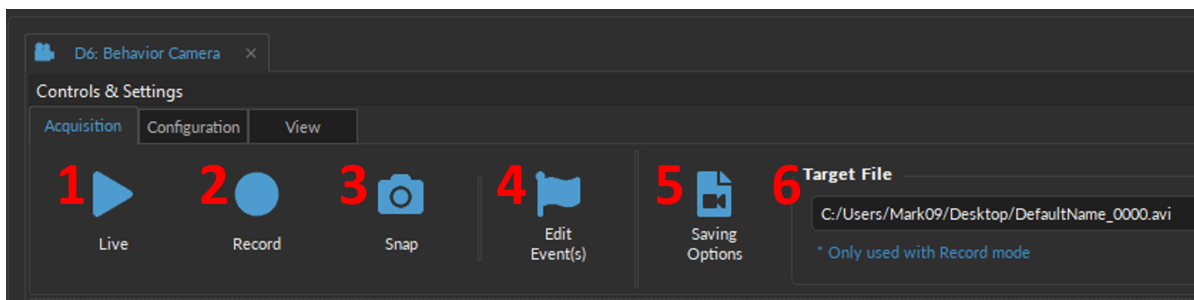
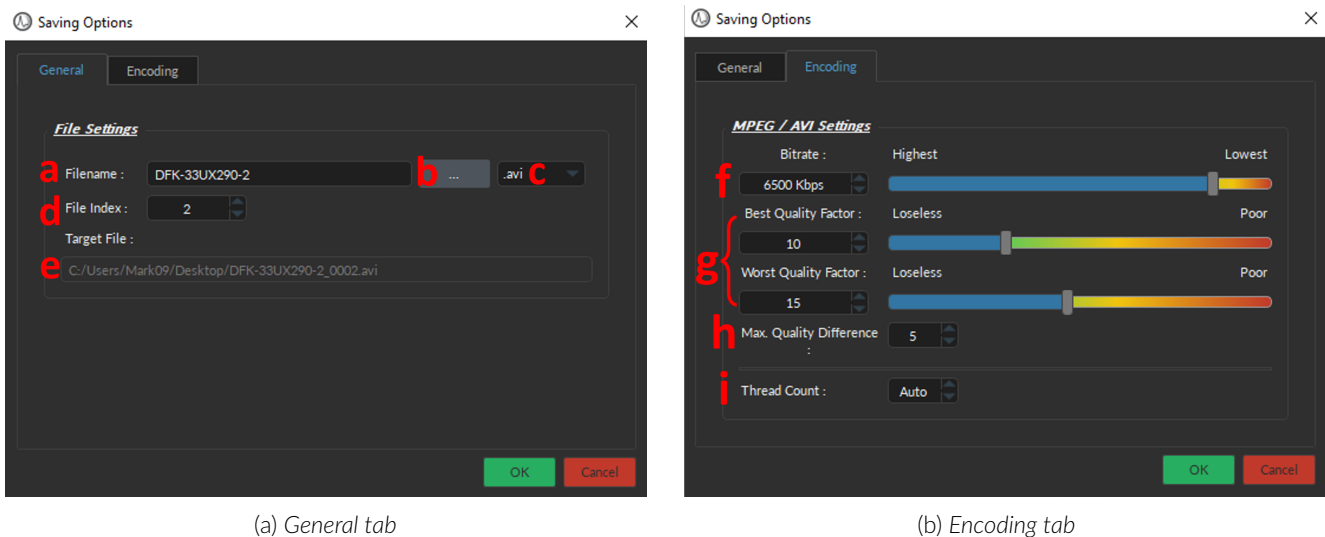

Figure 7.3: Control & Settings, Acquisition tab
Figure 7.4: Saving Options window
The **Acquisition** tab (Fig. 7.3) contains the controls to start, stop, and save behavior footage, and includes the following elements:
1. The **Live** button (Fig. 7.3, 1) acquires images and displays them. These images are for display only and cannot be saved.
2. The **Record** button (Fig. 7.3, 2) acquires a continuous image stream and saves it to a user-defined file as one .AVI file.
3. The **Snap** button (Fig. 7.3, 3; NOT available for the *Web Camera* module) will take a picture and automatically open a window where users can save the image in a variety of available file formats (including .bmp, .jpeg, .tiff, among many more).
4. The **Edit Event(s)** button (Fig. 7.3, 4) opens the **Keypress Event(s)** window, which allows users to flag behavior events or experimental disruption at the press of a keyboard key. See Section 7.1.5.
5. The **Saving Options** button (Fig. 7.3, 5) opens the **Saving Options** window (Fig. 7.4), which is split into two tabs. The **General** tab (Fig. 7.4a) is used to set file saving parameters, while the **Encoding** (Fig. 7.4b) is used to adjust the camera acquisition parameters.
- e) The **Target File** displays the final path + filename + extension. This file name will ultimately be displayed as the **Target File** in the **Acquisition** tab (Fig. 7.3, 5).